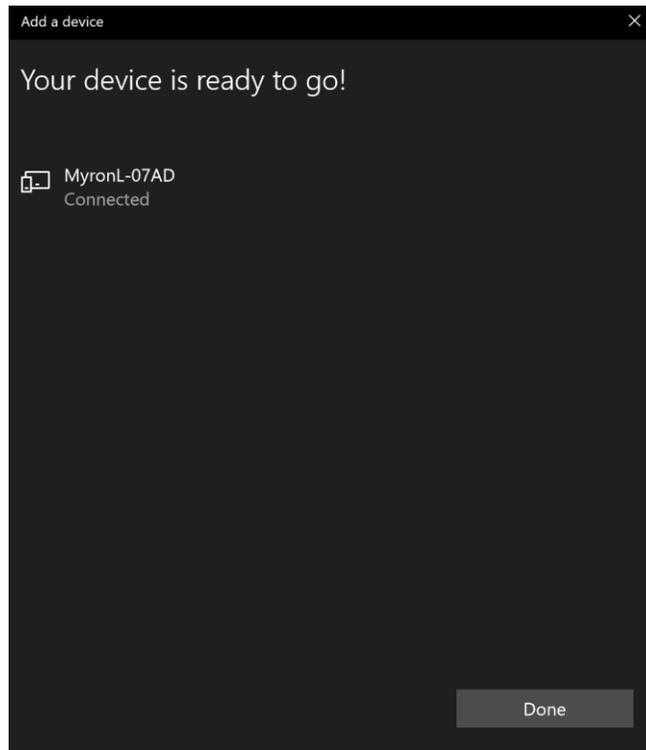

Figure 18
6) If the pairing was successful, you should see a message similar to image below (Figure 18).